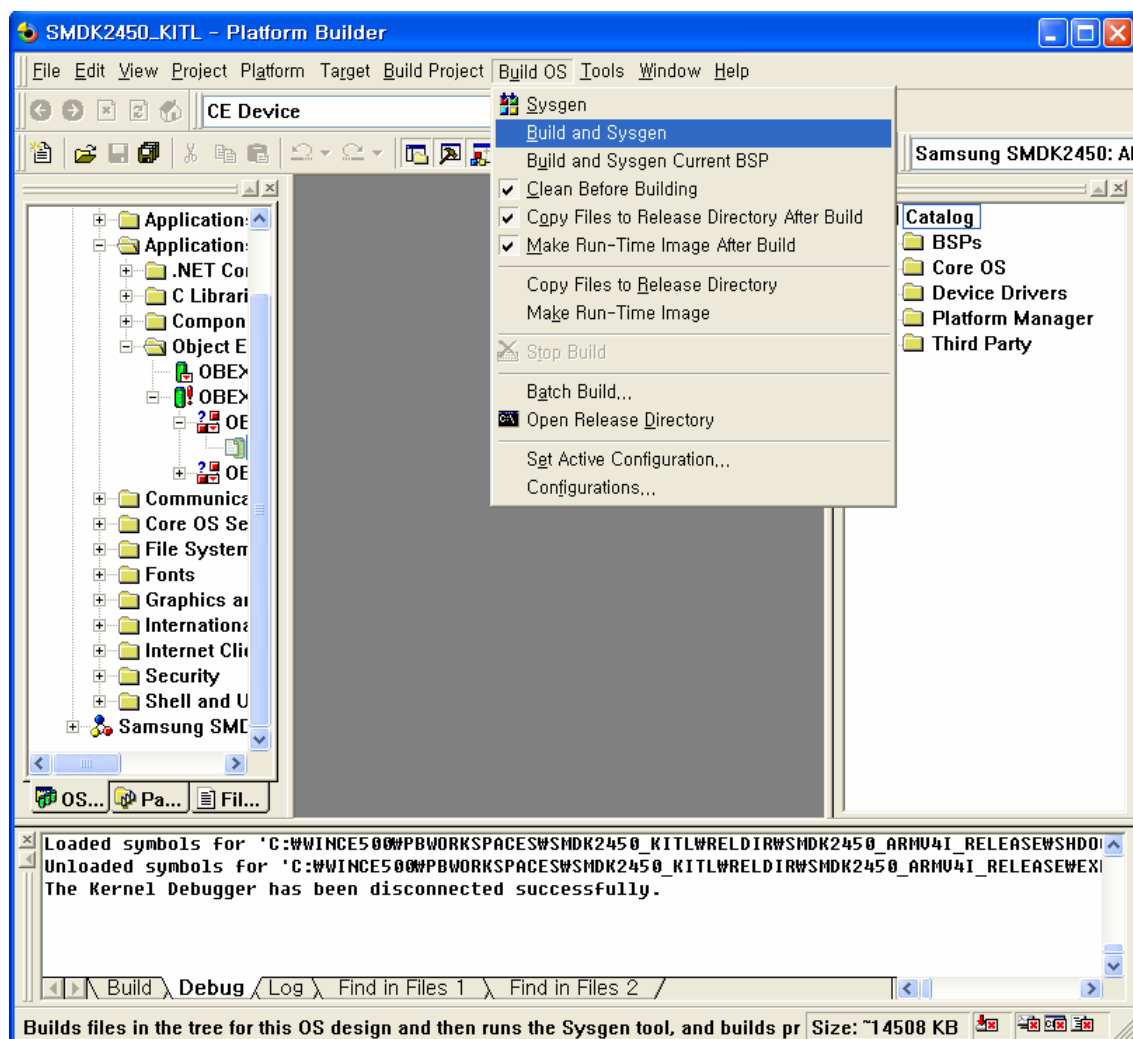

Figure 5-37 Build and Sysgen
2. On the **Build OS** menu in platform builder window, click **Build and Sysgen** as shown in figure 5-37 to build the WinCE image with USB Serial KITL.